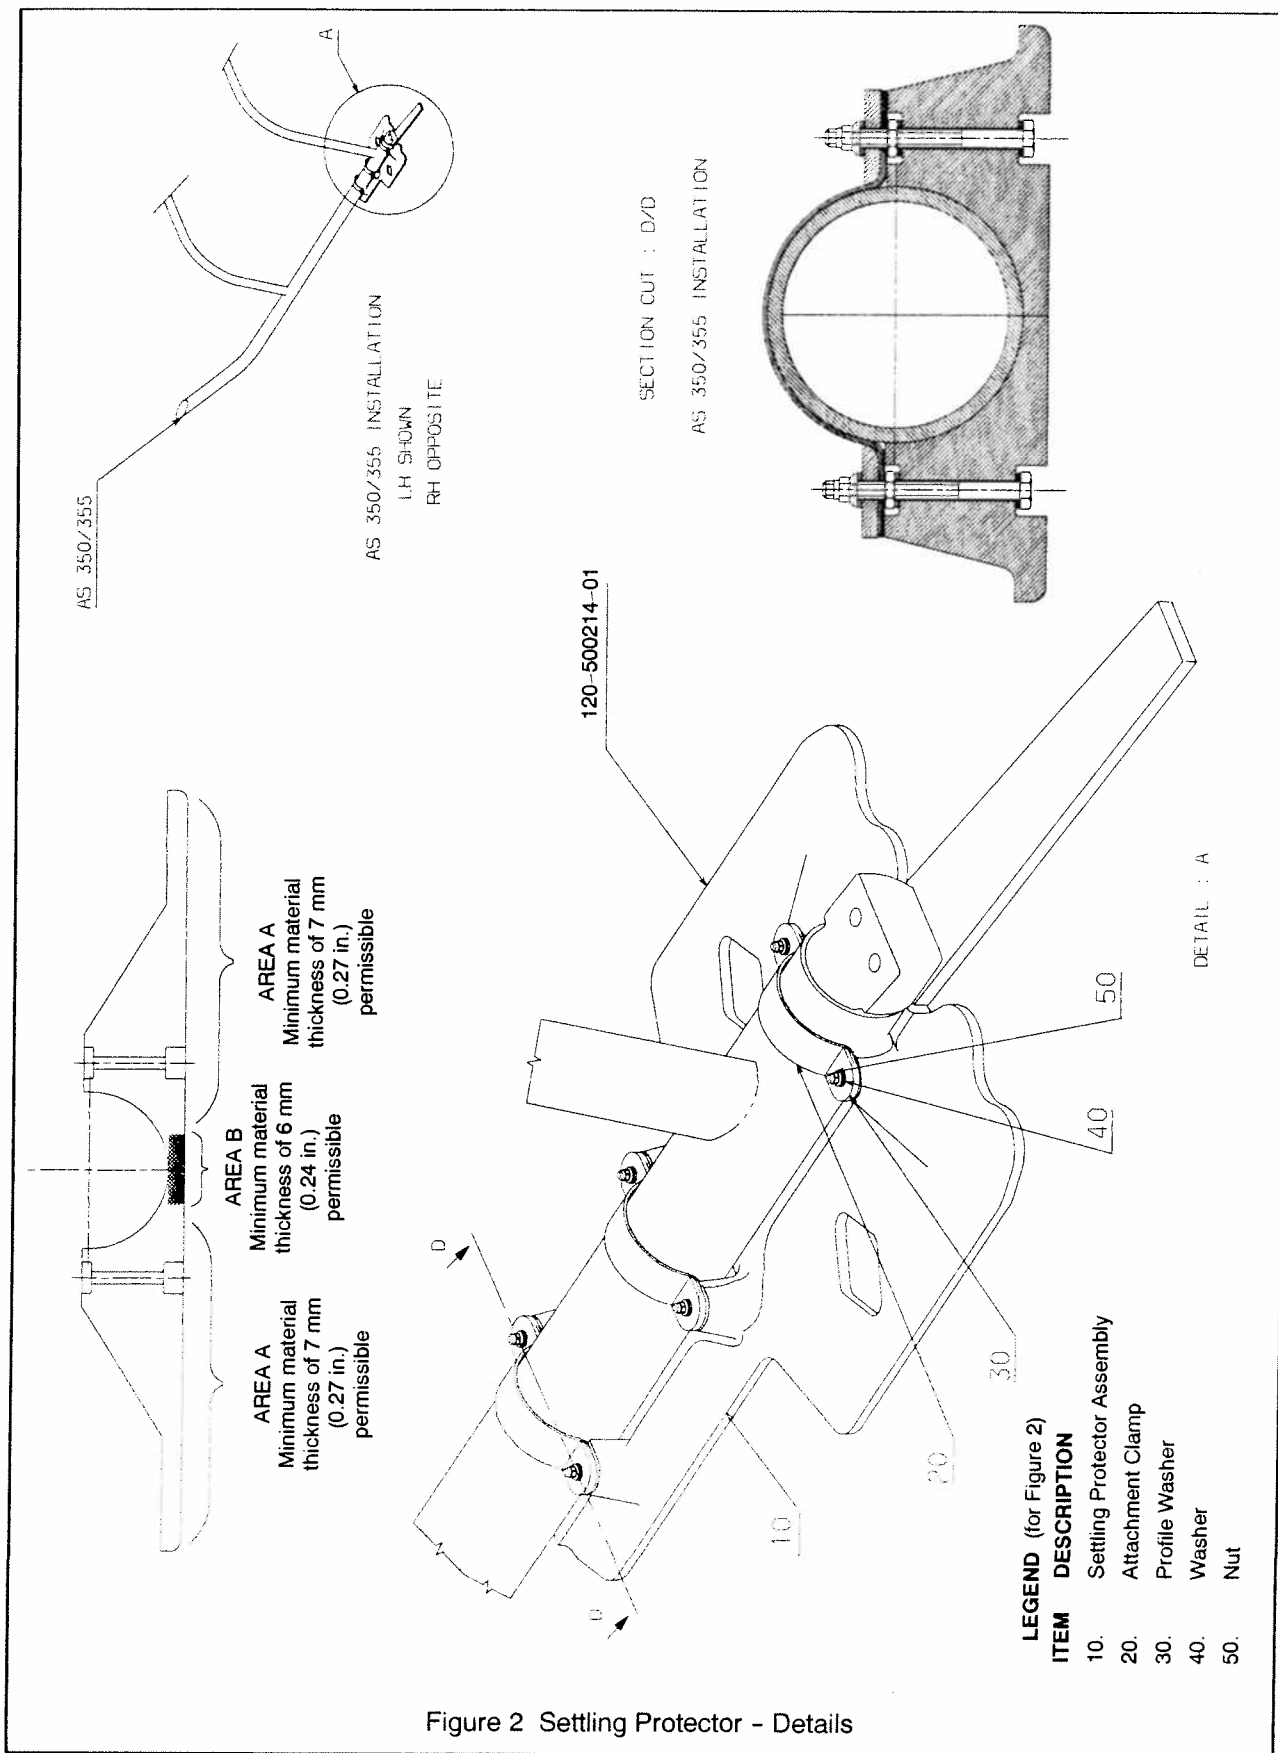

Figure 2 Settling Protector - Details
Refer to Figure 2 for component removal and replacement.
- b) Remove nuts (50, Figure 2), washer (40), profile washer (30), and attachment clamps (20) and slide settling protectors (10) out in aft direction.
- b) With one side of the helicopter raised, slide pre-assembled settling protector under the skid, and position in accordance with Figure 2.
- d) Install three clamps (20) and align the settling protector in accordance with Figure 2.
- e) Secure all clamps using profile washer (30), washer (40), nut (50), and hand tighten.